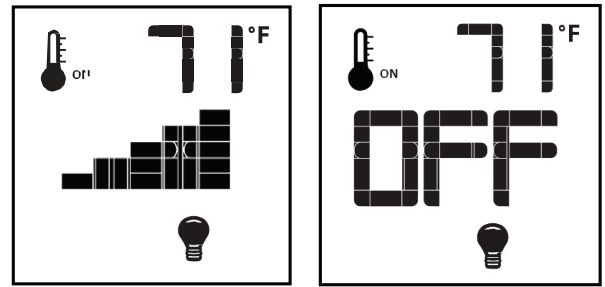

Fig. 70 Dimmer light control
The auxiliary function controls the AUX power outlet by the dimmable light control. To activate this function use the Mode Key (fig. 56) to index to the light bulb icon (fig. 70). The intensity of the output can be adjusted through six (6) levels. Use the Up/Down Arrow Keys (Fig.56) adjust the output level (fig. 70). A single “beep” will confirm reception of the command.